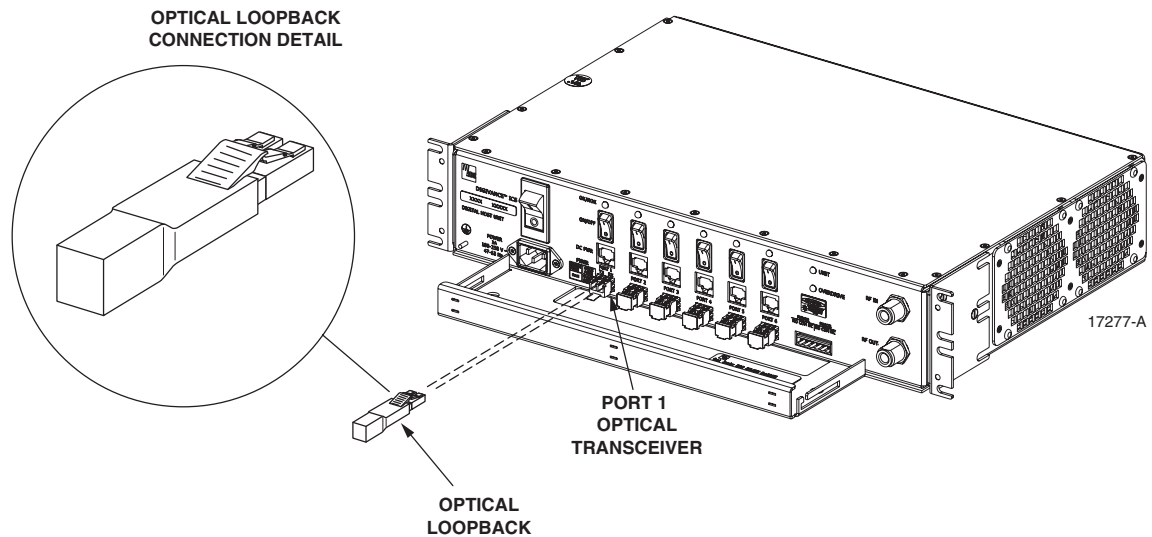

Figure 26. DHU/DEU Loopback Test
4. Plug a loopback into the optical port to be tested as shown in Figure 26.